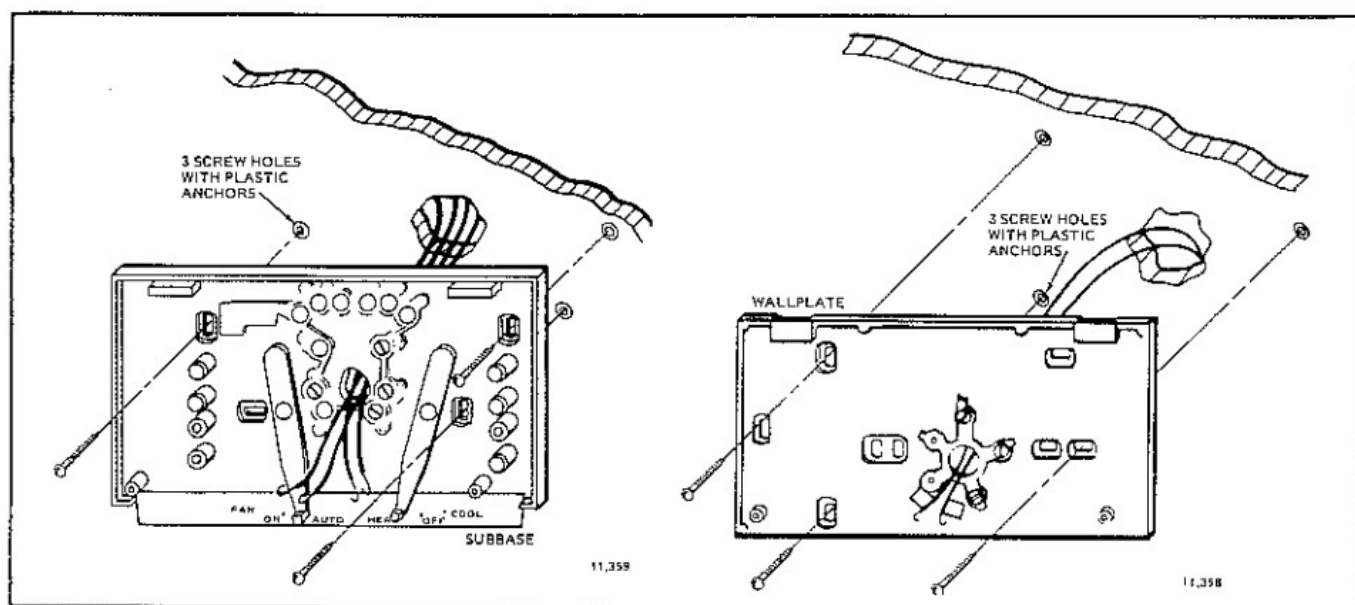

Fig. 2—Mounting wallplate or subbase to wall.
- Hold wall plate or subbase in position on wall as shown in Fig. 2.